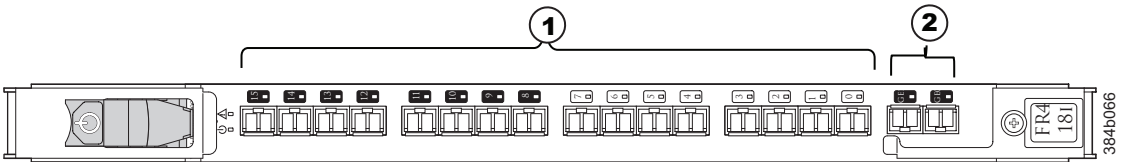

Figure 60. FR4-18i routing blade
- Figure 60 on page 158 shows an FR4-18i routing blade